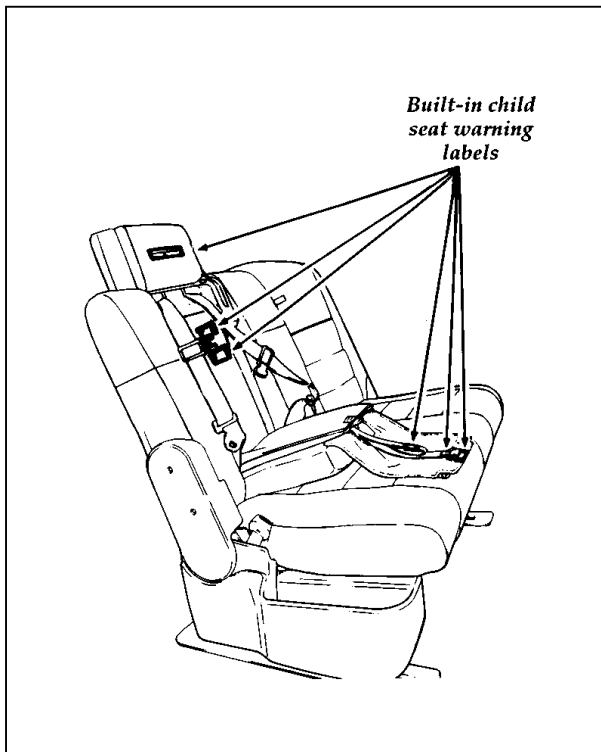

Figure 3
3. Read the information and warnings on the child seat. Check the child's size, weight and age to be sure the child is not too small or too large for the child seat. Refer to Figure 3.